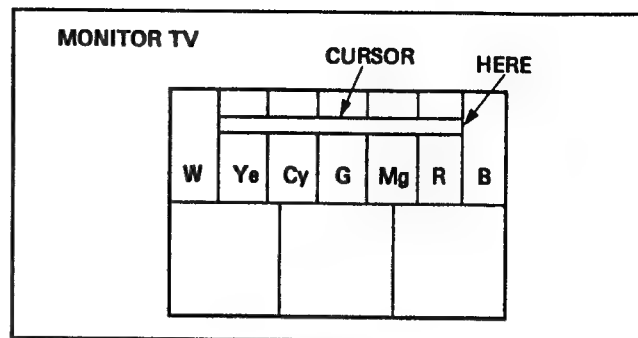

Figure E4
3. Adjust C3111 so that the end of the cursor is located as shown in Figure E4.